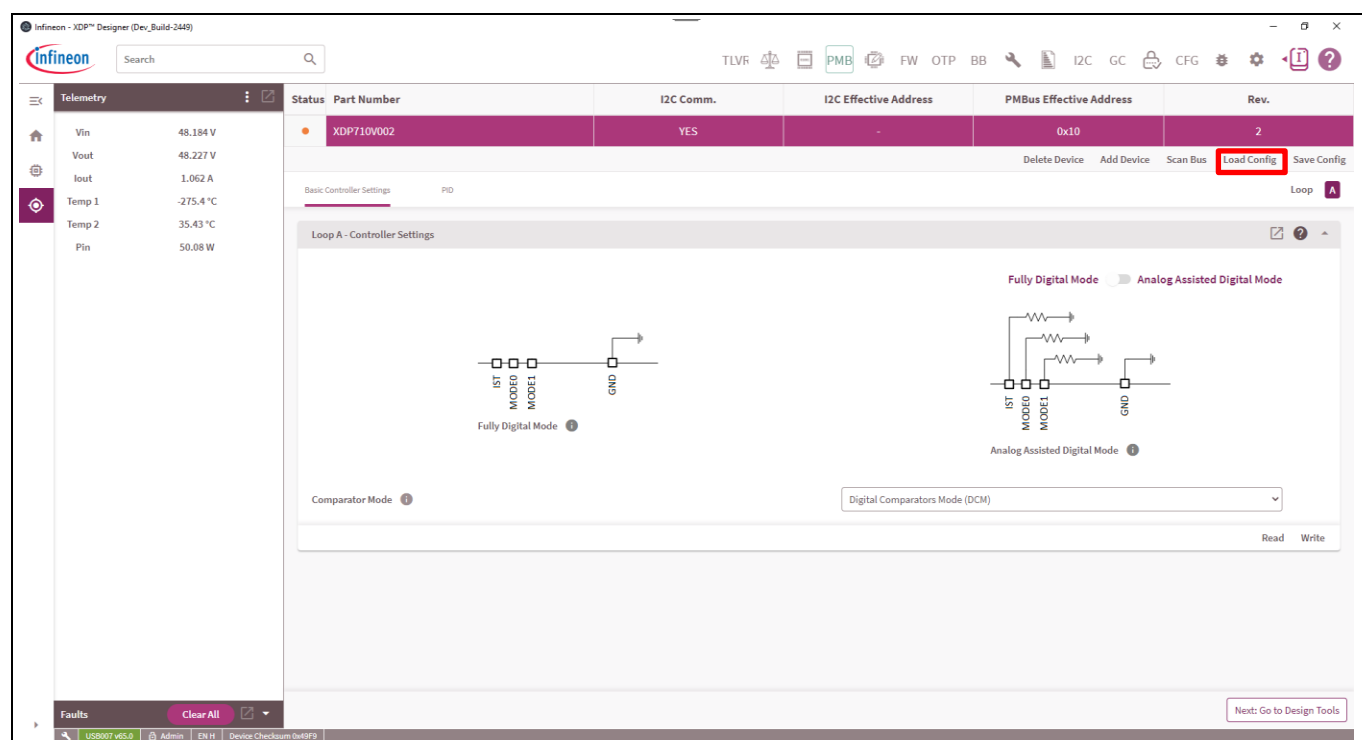

Figure 34 Select “Load Config” option
- Click on “Load Config”, as shown in Figure 34.